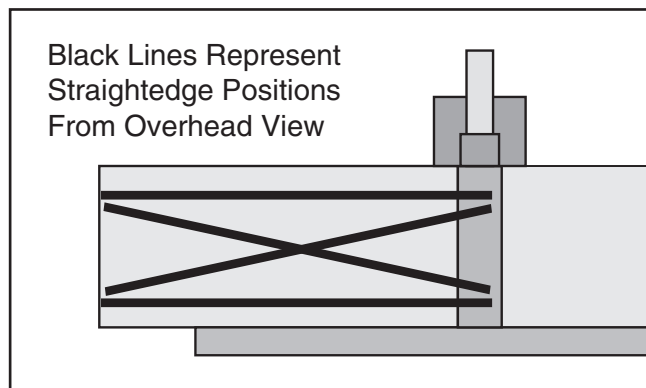

Figure 52. Straightedge positions for verifying if outfeed table is parallel with cutterhead.
3. Place the straightedge on the outfeed table so it hangs over the cutterhead in one of the positions shown in **Figure 52**.
5. Continue placing the straightedge in the remaining positions shown in **Figure 52**. In each position, the feeler gauge measurement should be nearly identical.